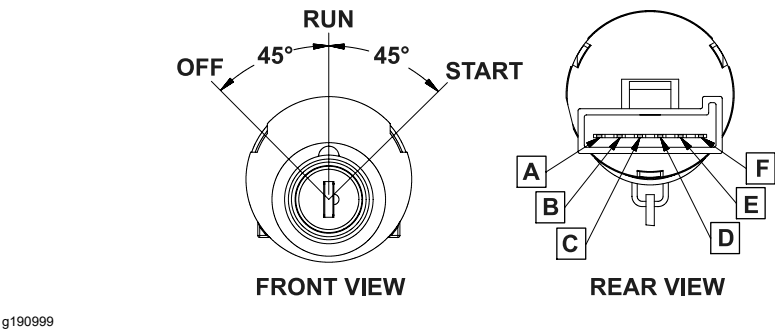

Figure 59
5. With the use of a multimeter (ohms setting), test the switch functions to determine if continuity exists between the various terminals for each switch position. The switch terminals are marked as shown in Figure 59. The circuitry of the key switch is shown in the Circuit Logic Table \(page 5–32\). Check the continuity between the switch terminals.